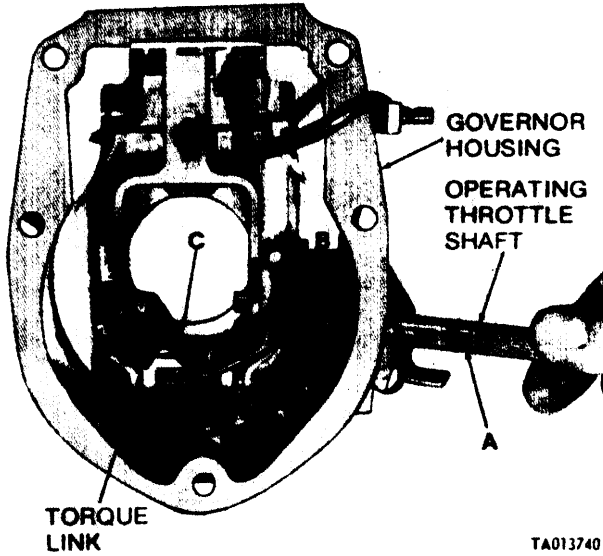

Figure 3-65. Removing or installing torque link assembly in governor housing (code A pumps).
(13) Refer to figure 3-65. Disengage operating shaft assembly (A) from fulcrum lever assembly (B). Remove torque link assembly (C) and operating